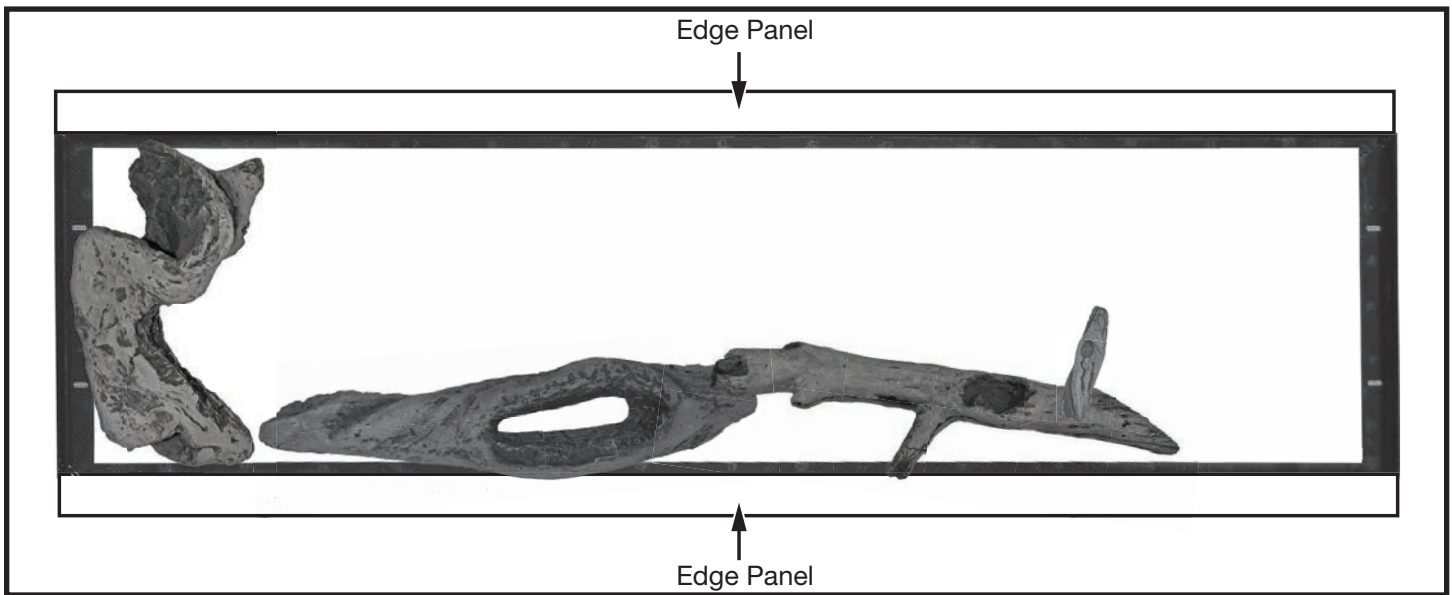

Figure 41: Log 4 placement.
4. The 4th log also has a socket which will fit over top of the location post of the 3rd log. Fit the 4th log over the location post and let the opposite end rest on the glass at about a 1 o'clock position (Figure 41).